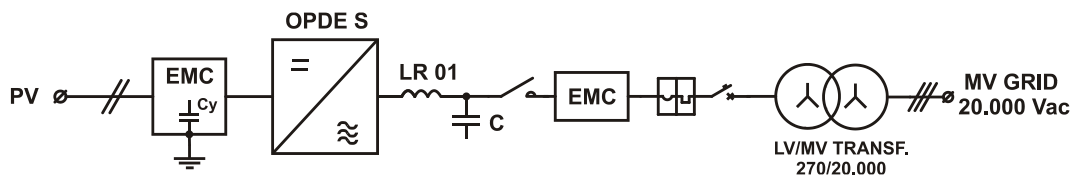

FIG. 29 – OPDE S, MV connected, photovoltaic application
- Feeding of ancillary equipment from UPS	- FIG. 29
- SPI adjusted to prevent it from tripping during voltage lowering	- FIG. 29
The management of the on-grid control, if it **is required to exceed the LVFRT values** and if the precharge is not required, is shown in FIG. 29. It involves: